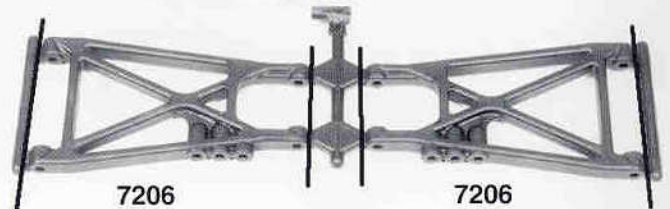

Fig. 122
□ **Figs. 122, 123 & 124** (1) Take the #7206 rear suspension arms from the suspension arm bag. Fig. 122 shows you which arm is left and where to separate the arms from the molding tree. Pull the arms off with pliers, then any runner bits with your hobby knife.